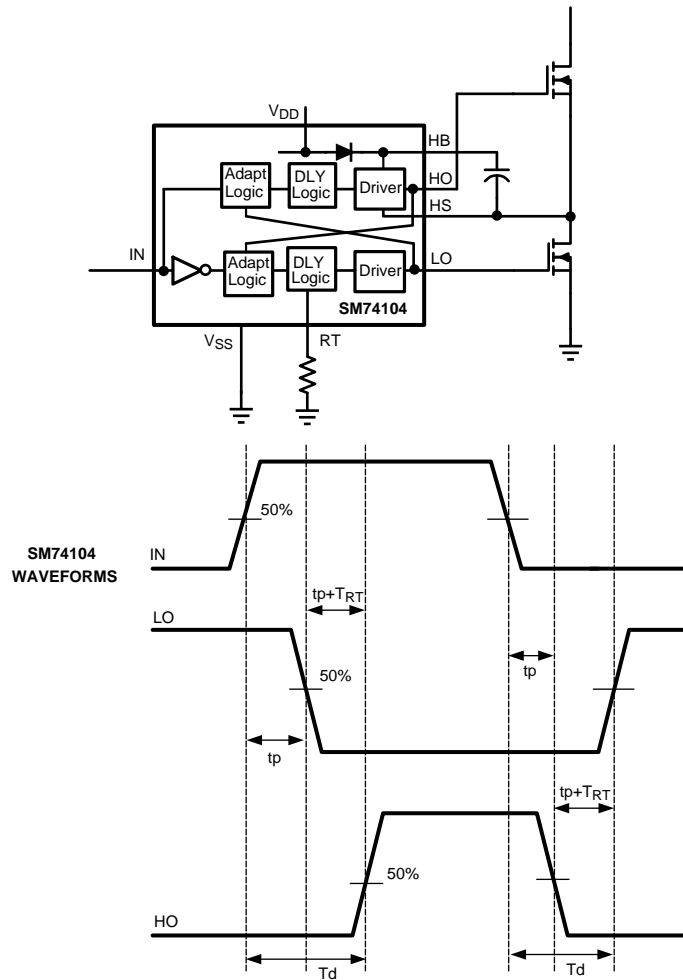

Figure 16. Application Timing Waveforms
Referring to the timing diagram in Figure 16, the rising edge of the PWM input (IN) turns off the bottom MOSFET (LO) after a short propagation delay ( $t_p$ ). An adaptive circuit in the SM74104 monitors the bottom gate voltage (LO) and triggers a programmable delay generator when the LO pin falls below an internally set threshold ( $\approx V_{DD}/2$ ). The gate drive of the upper MOSFET (HO) is disabled until the deadtime expires. The upper gate is enabled after the TIMER delay ( $t_p + T_{RT}$ ), and the upper MOSFET turns-on. The additional delay of the timer prevents lower and upper MOSFETs from conducting simultaneously, thereby preventing shoot-through.